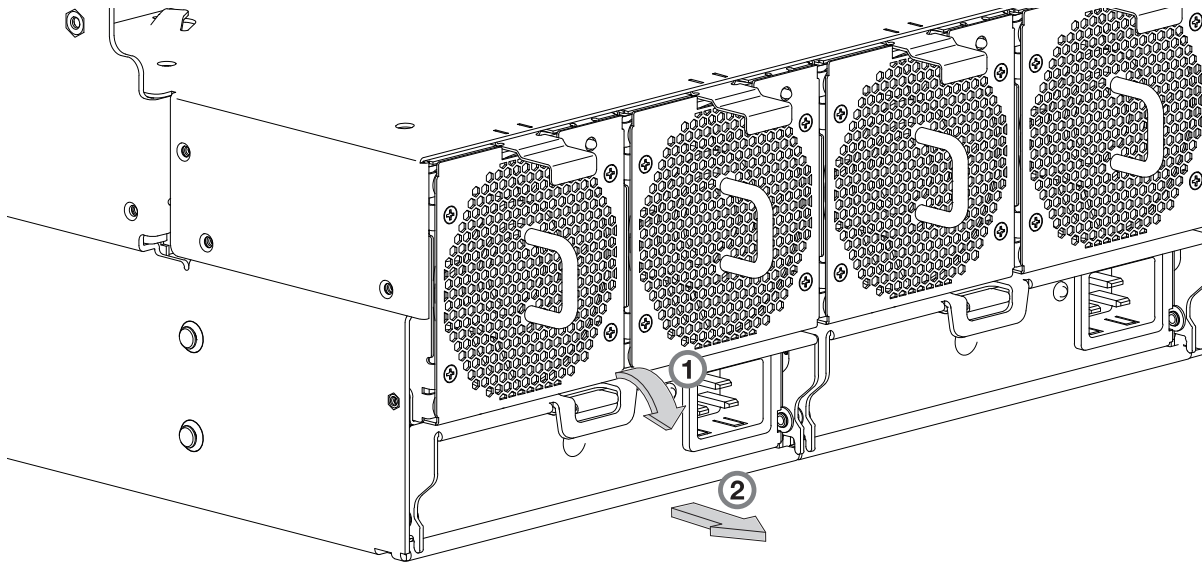
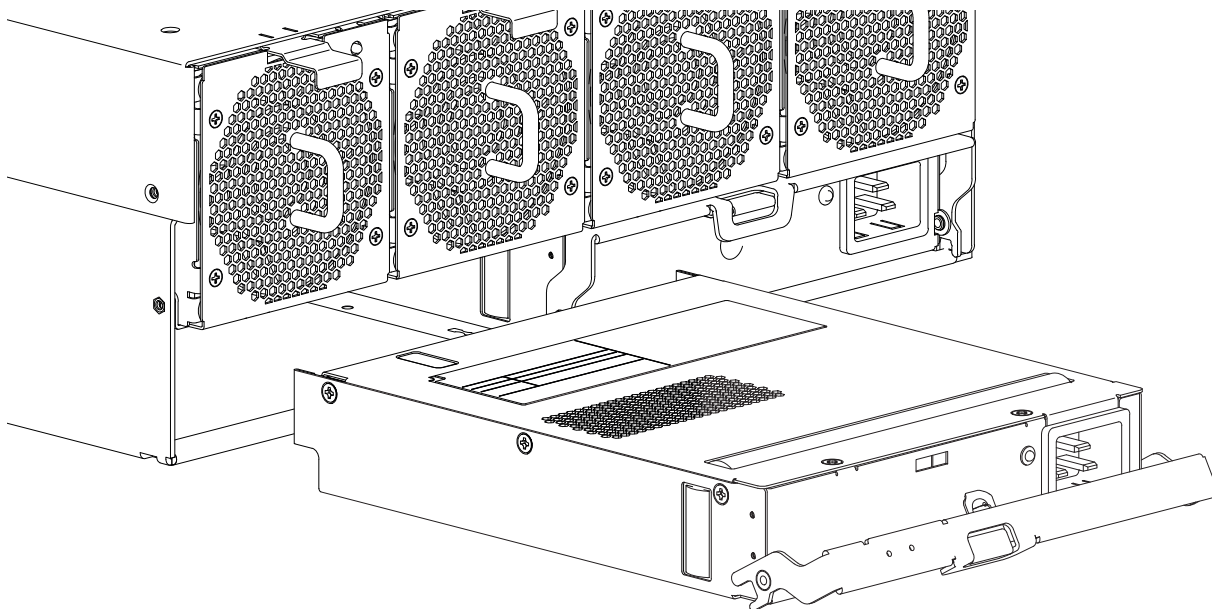

Figure 62. Removing a PSU (1 of 2)
Figure 63. Removing a PSU (2 of 2)
Revolve the handle out and downward to cam the PSU out of the enclosure as shown in Figure 62 on page 76.
8. Grip the handle and withdraw the PSU, taking care to support the base of the module with both hands as you remove it from the enclosure as shown in Figure 63.
Refer to Figure 62 and Figure 63 when performing this procedure, but ignore the directional arrow—since you will insert the module into the slot—rather than remove it.